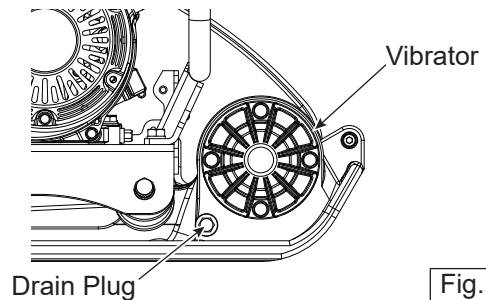

Fig. 2
1. Check the vibrator oil level by removing the drain plug. Make sure the oil level is set at level of drain plug hole. (Fig. 2)